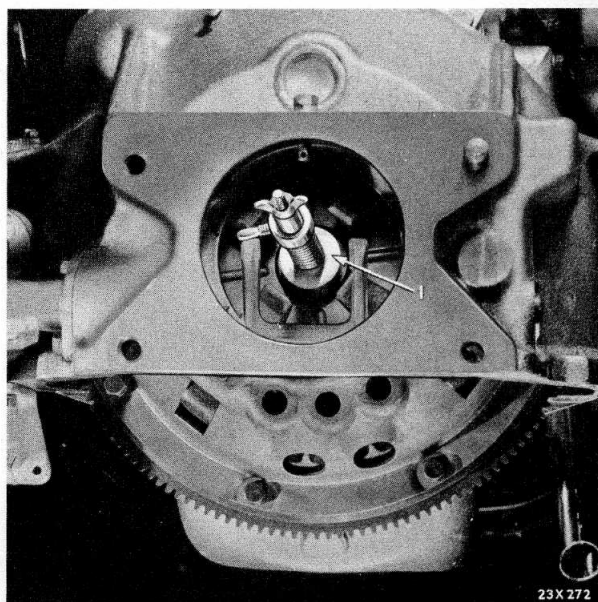

Fig. 8—Clutch Disc Aligning Arbor, Tool C-360
- (3) Hold the clutch cover plate and disc in place and insert the aligning tool (Fig. 8) through the hub of the driving disc and into the drive pinion pilot bushing in the crankshaft.
- (4) Bolt the clutch cover plate loosely to the flywheel and make sure that the marks on the cover and flywheel are in alignment.
- (5) The clutch cover bolts should then be tightened a few turns (in progression) until they are tight. If the aligning tool is not used, the transmission drive pinion (an extra part or one which has been removed from the transmission) may be used for this purpose.